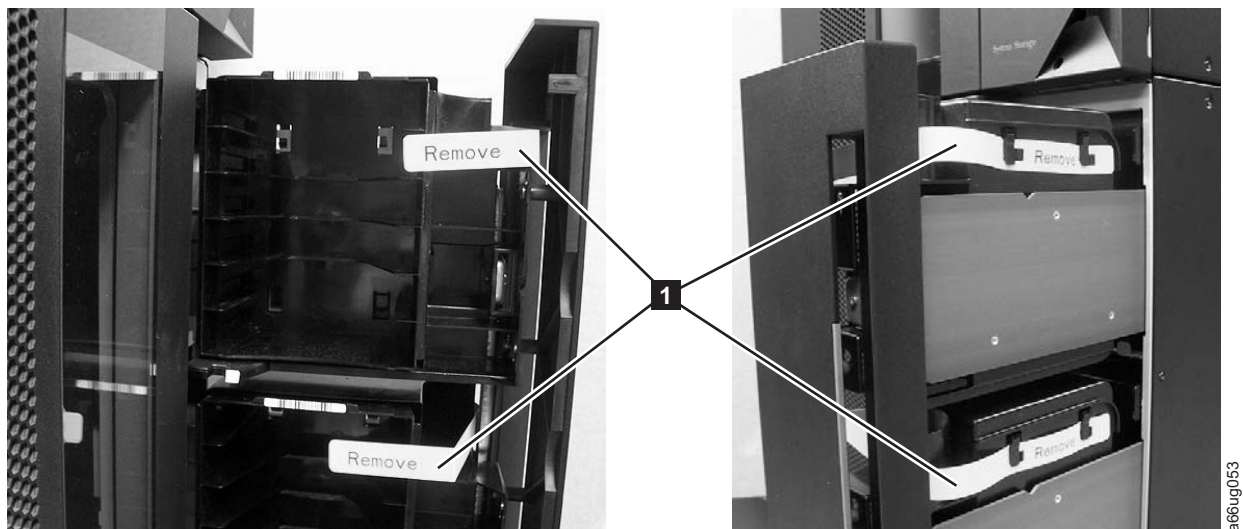

Figure 3-2. Yellow ribbon-like packing pieces
5. Remove the yellow ribbon-like packing pieces (**1** in Figure 3-2) from around the I/O Station magazines.